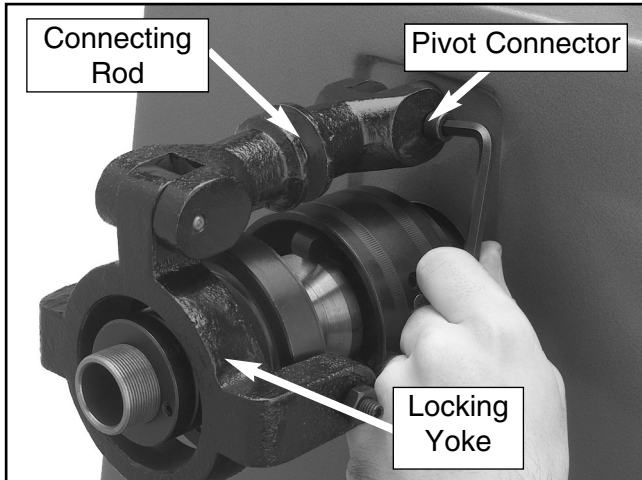

Figure 9. Connecting rod and locking yoke installed on pivot connector.
1. Align the connecting rod and locking yoke assembly onto the pivoting rod connector and secure them together with the 8mm cap screw as shown in **Figure 9**.